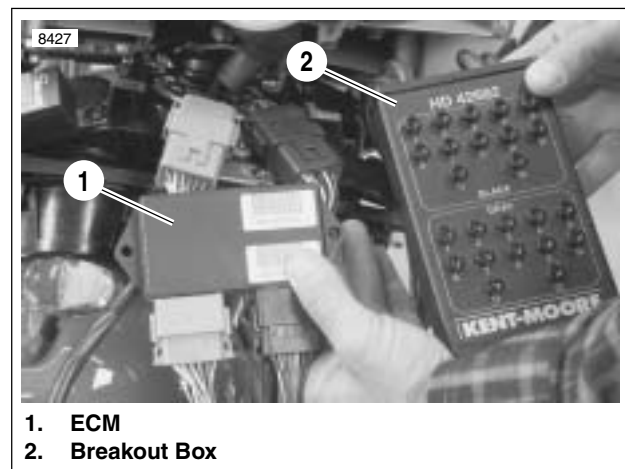

Figure 4-10. Installed Breakout Box
3. See Figure 4-10. Attach Breakout Box (2) to black connector [10].
1. See Figure 4-10. Depress latches on each side of connectors [10] (black) and [11] (gray).